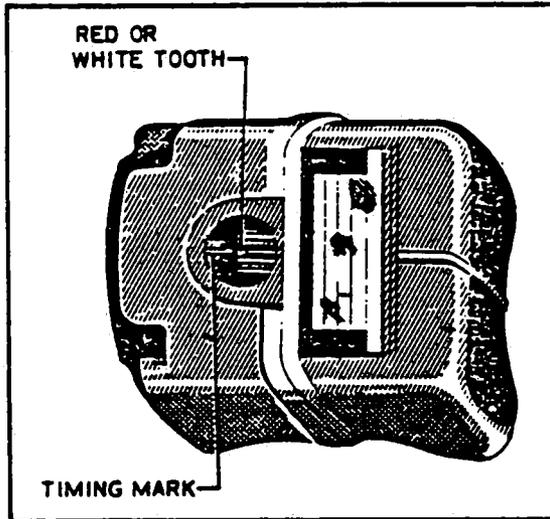

Figure 8-12. Magneto Timing Marks
- c. Rotate coupling from neutral in a left hand direction 10 degrees. Appearing through timing hole, when the white or red tooth aligns with the white line of the distributor block the magneto is set at "E" gap. (Refer to Figure 8-12.) Alignment may not vary over ± 4 degrees.
c. Rotate the drive gear on the magneto until the chamfered tooth on the distributor gear inside the magneto aligns with the white pointer as seen through the inspection hole in the magneto housing. Refer to Figure 8-12.